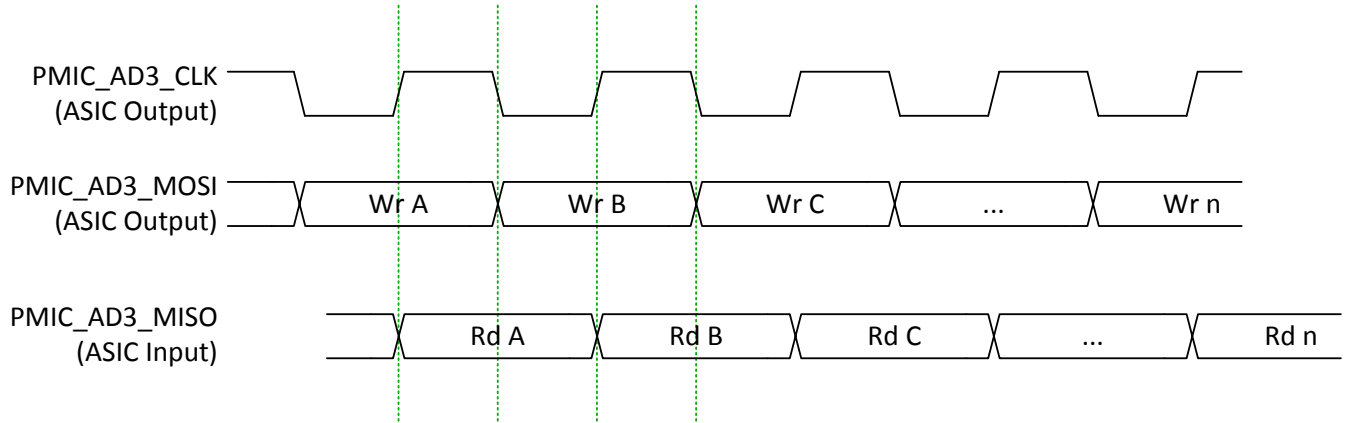

图 5-12. TPS99000-Q1 AD3 Data Capture and Transition
- (1) The DLPC23x-Q1 communicates with the TPS99000-Q1 using a slight variant of SPI Transfer Mode 0 (that is, clock polarity = 0, clock phase = 0). Instead of capturing MISO data on the clock edge opposite from that used to transmit MOSI data, the DLPC23x-Q1 captures MISO data on the same clock edge used to transmit the next MOSI data. As such, the DLPC23x-Q1 SPI interface to the TPS99000-Q1 requires that MISO data from the TPS99000-Q1 remain active until the end of the full clock cycle to allow the last data bit to be captured. This is shown in 图 5-12.